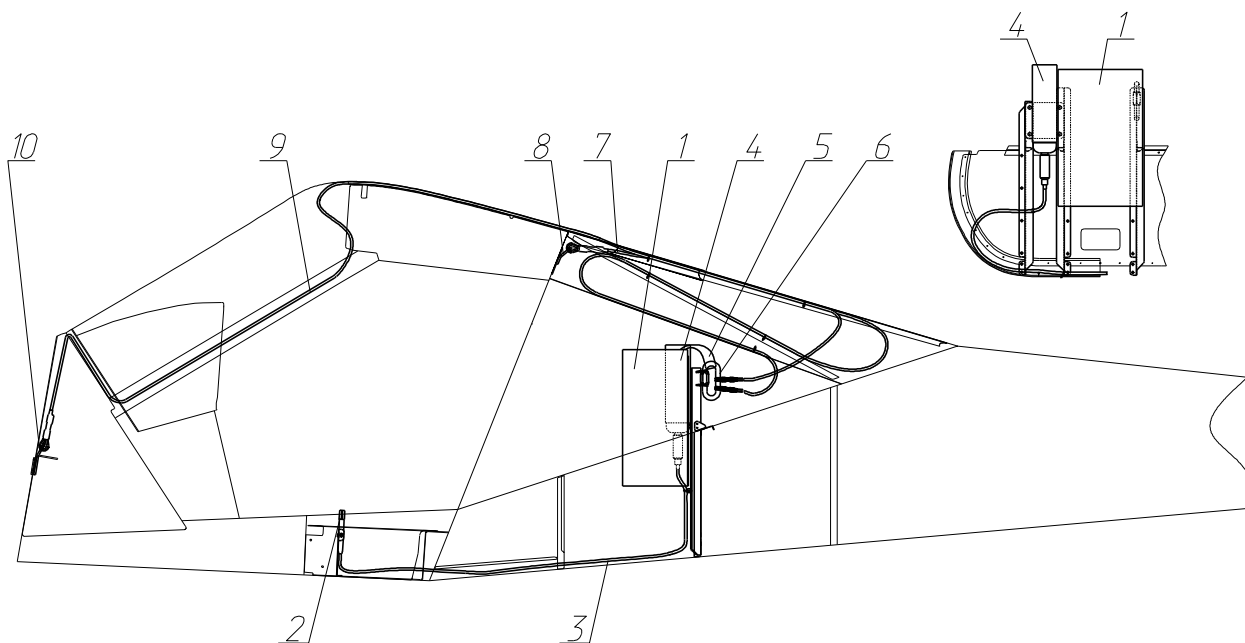

Fig. 19. Recovery system
Installation of the recovery system is shown on **Fig. 19**. The parachute packed into a soft container (1) is located behind the baggage compartment. To deploy the system pull the handle (2) of the ejection device connected with a cable (3) to the rocket housing (4). That launches the rocket which pulls out the parachute, attached with a rope (5) via a carabiner (6) to the cables (7) and (9) fastened to the attachment points (8) and (10). The locations of the attachment points and the cables' length are selected so that the aircraft when descending with deployed parachute is suspended in a certain attitude (wings level, nose lowered). Such attitude ensures a high level of safety to pilots during emergency landing despite the fact that the aircraft structure is likely to be damaged while absorbing the impact at touchdown.